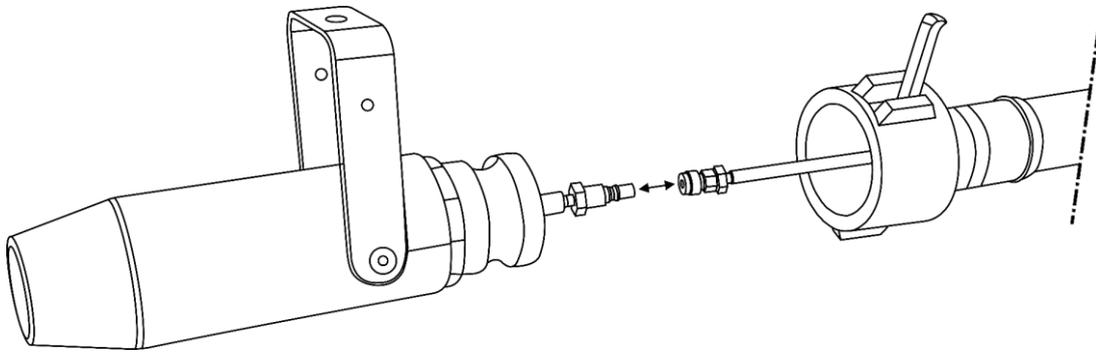

Fig. 08
- 02) Disconnect the snow liquid hose located inside. See Fig. 08.